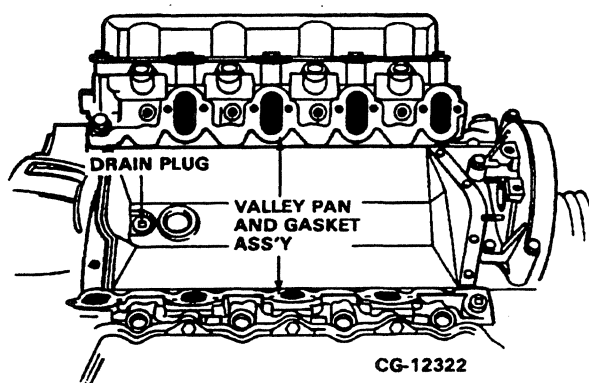

Figure 2.9. Remove Valley Pan Drain Plug
3. Remove the valley pan drain plug and set aside. Refer to Figure 2.9.